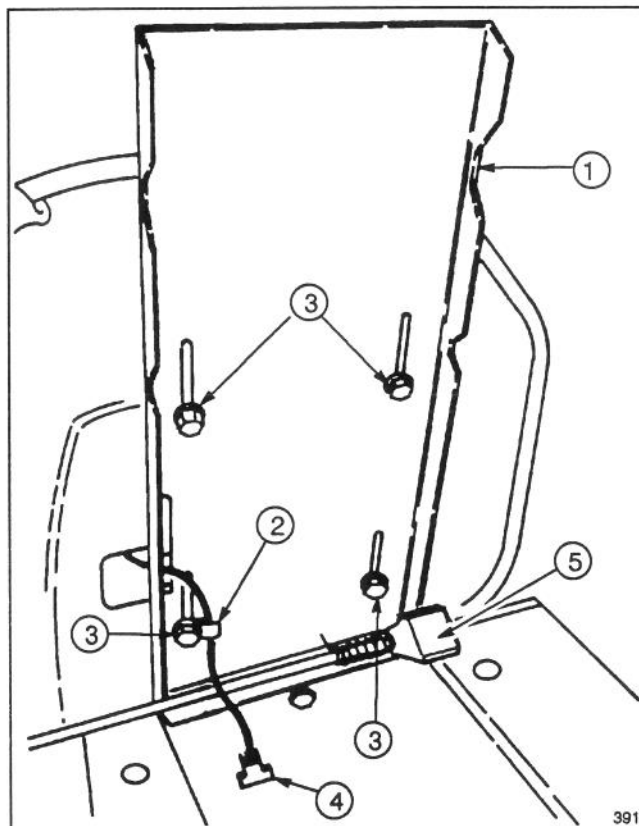

Figure 1
1. Position the seat onto the seat base, inserting seat switch cable thru slot and aligning mounting holes (Fig. 1).
2. Slide the wire clamp over the seat switch wire (Fig. 1).
3. Using left rear mounting lot in seat base, loosely secure wire clamp and seat to seat base with a capscrew and lockwasher (Fig. 1).
1. Tip the seat up to expose battery. A seat prop latch on the underside of the seat will prevent the seat from falling rearward while working with battery (Fig. 1).